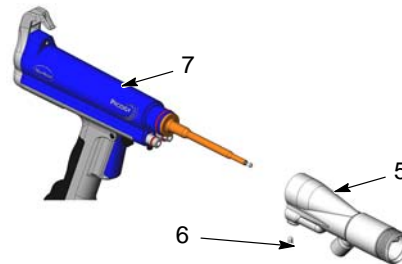

Figure 3 Removing the Adapter
5. See Figure 3. Loosen the set screw (6) in the bottom of the adapter.
6. Pull the adapter straight off the gun body (7).
- See Figure 3. Install the adapter (5) on the gun body (7). Tighten the set screw (6).